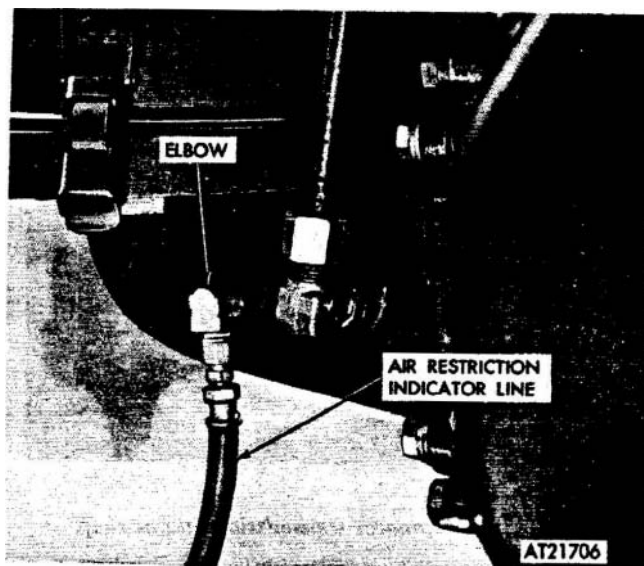
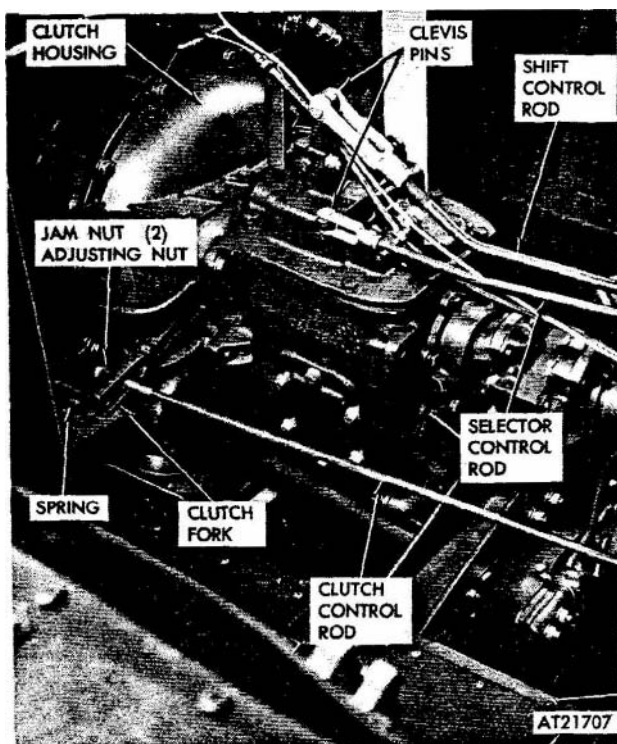
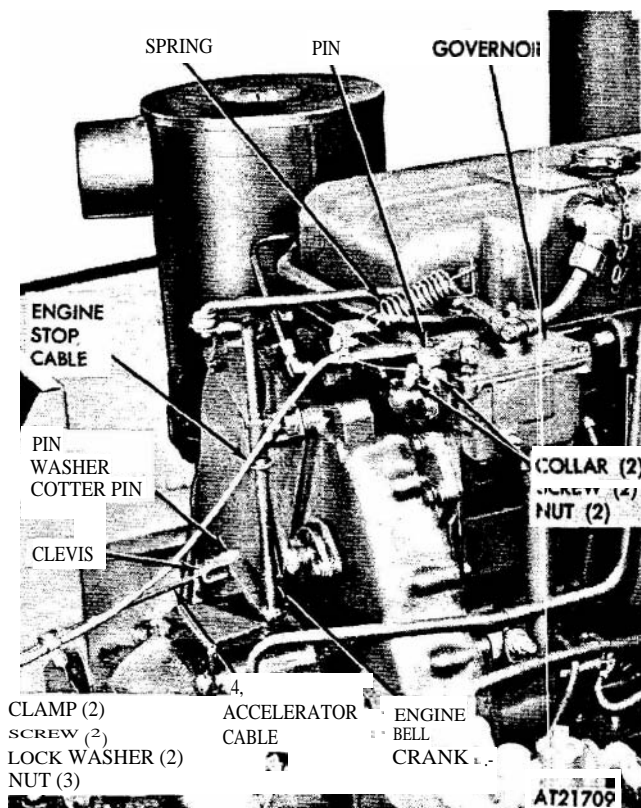

Figure 2-51. Air restriction indicator line.
Figure 2-52. Clutch and transmission linkage.
Figure 2-54. Accelerator and governor linkage.
(9) Disconnect air restriction indicator line from base of air cleaner housing. Remove elbow from housing and install loosely on indicator line (fig 2-51).
(10) Remove clutch control rod from clutch fork by removing two jam nuts and adjusting nut (fig 2-52).
(12) Remove shift control rod from transmission by removing cotter pin, washer, and clevis pin (fig 2-52).
(13) Remove selector control rod from transmission by removing clip and clevis pin.
(14) Remove accelerator (throttle) cable from engine bell crank by removing cotter pin, washer, and clevis pin (fig 2-54).
(16) Secure accelerator (throttle) cable to transfer case using clamp and existing screw on transfer case (fig 2-54).
(17) Secure accelerator (throttle) and engine stop cables to transmission using three clamps and two screws, lock washers, and nuts.
(22) Loosen jam nuts on shift control rod and selector control rod. Attach shift control rod to transmission with clevis pin and clip (fig 2-52).
(28) Insert clutch control rod in outboard slot of clutch fork; secure with adjustment nut and two jam nuts (fig 2-52).
(29) Push clutch fork forward against clutch bearing. Back off adjustment nut for $\frac{1}{8}$ -3 / 16-inch clearance between clutch release fork and adjustment nut. Tighten jam nuts.
(30) Check free travel of clutch pedal. Proper linkage adjustment will result in $\frac{1}{2}$ - $\frac{3}{4}$ -inch pedal free travel.
(31) Remove elbow from air restriction indicator line and install in air cleaner base. Connect air restriction indicator line to elbow (fig 2-51).